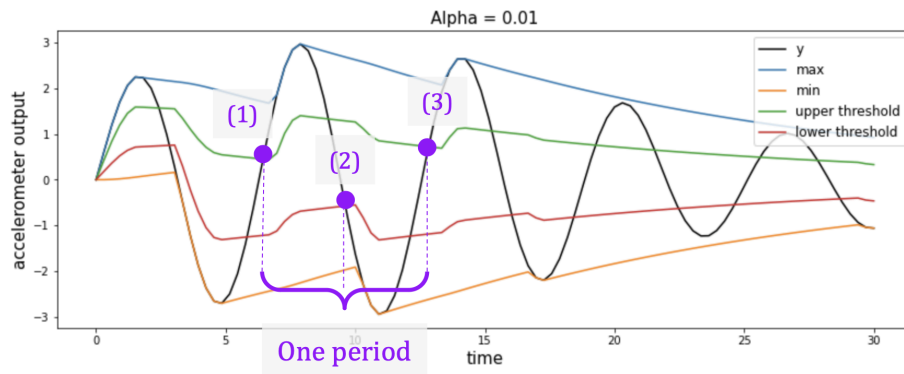

Figure 7. The length of the period is measured with hysteresis.
Having two thresholds allows us to implement hysteresis in peak detection. A CPR period will now be defined as the time it takes for the analogValue to (1) cross the *upperThreshold* from a lower value; (2) cross the *lowerThreshold* from a higher value; then (3) cross the *upperThreshold* from a lower value again (Figure 7). Measure this period with the built-in `micros()` function. Take the inverse of this period to calculate the CPR rate. Store this rate in a variable. We will display the rate on an OLED display in the lab.